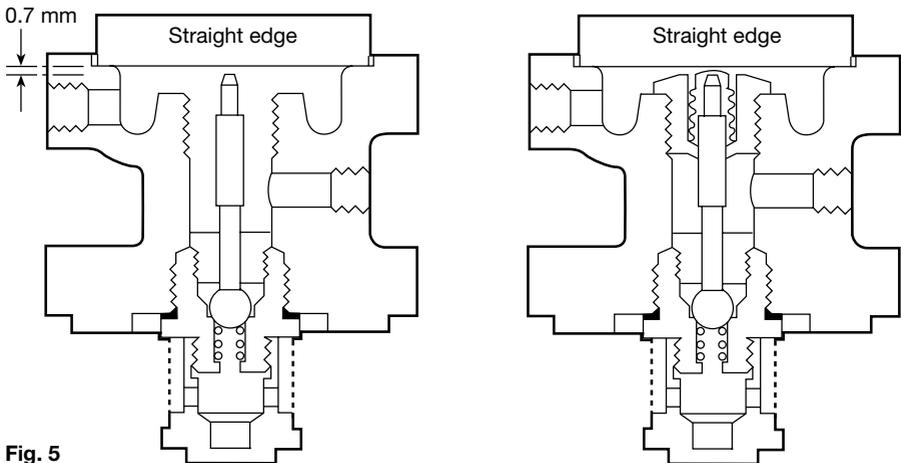

Fig. 5
2. Release the adjustment lock-nut (2) and turn the adjustment screw (1) anticlockwise until the spring is slack.
3. Slide out the 'C' washer (3) from underneath the lock-nut and remove the spring housing cover (12).
4. Remove the pressure adjustment spring (6) and the top spring plate (5).
5. Undo the 4 x M10 nuts and remove the spring housing (4), bottom spring plate (7) and remove the diaphragms (9) after noting which way they are installed.
6. Undo the union nut (27C) and pressure pipe union (29) and release the 6 mm stainless steel pipework.
7. Undo the 4 nuts (21) and remove the pilot valve housing (10) making sure that the main valve return spring (16) is still positioned correctly on top of the main valve (17).
8. Unscrew the pilot valve and seat unit (13) and the internal strainer screen (14A) by using a 27 mm A/F socket and also remove the plunger (11).
10. With the bellows seal still removed screw in the new pilot valve and seat unit (13) and tighten down to a torque of 115 N m.
11. Insert the pilot valve plunger (11) in from the top and check that there is a gap of 0.7 mm between the top of the plunger and a straight edge placed across the diaphragm location recess (see Figure 5).
13. Check with a straight edge again that, with the top of the bellows pressed lightly onto the top of the plunger, there is a slight clearance - a mere line of light, between the straight edge and the top of the bellows (see Figure 5).
14. Before reassembling the valve make sure that the gasket face on both the pilot valve block and the body are clean and that the main valve return spring (16) is positioned correctly on top of the main valve head.
15. Fit the new body gasket (15) and secure the pilot valve block assembly onto the body with the 4 nuts (21) tighten these nuts to the torque shown in Table 1 below.
16. Refit the 6 mm stainless steel pipework and retighten the union nut (27C) and pressure pipe union (29) to ensure a steam tight seal.
17. Refit the two pilot diaphragms (9) making sure that they are fitted the same way round as they were removed and that all contact surfaces are clean. **If necessary two new diaphragms can be fitted.**
18. Place the bottom spring plate (7) in position and secure the spring housing with the 4 x M10 nuts (8) and tighten to a torque of 50 N m.
19. Replace the pressure adjustment spring (6) and the top spring plate (5) turning the adjustment screw (1) until it just locates on the top spring plate. Replace the spring housing cover (12) and the 'C' washer (3).
6. Bring the two main diaphragms together and slide into position, first easing the diaphragm plate upwards to clear, see Figure 5.